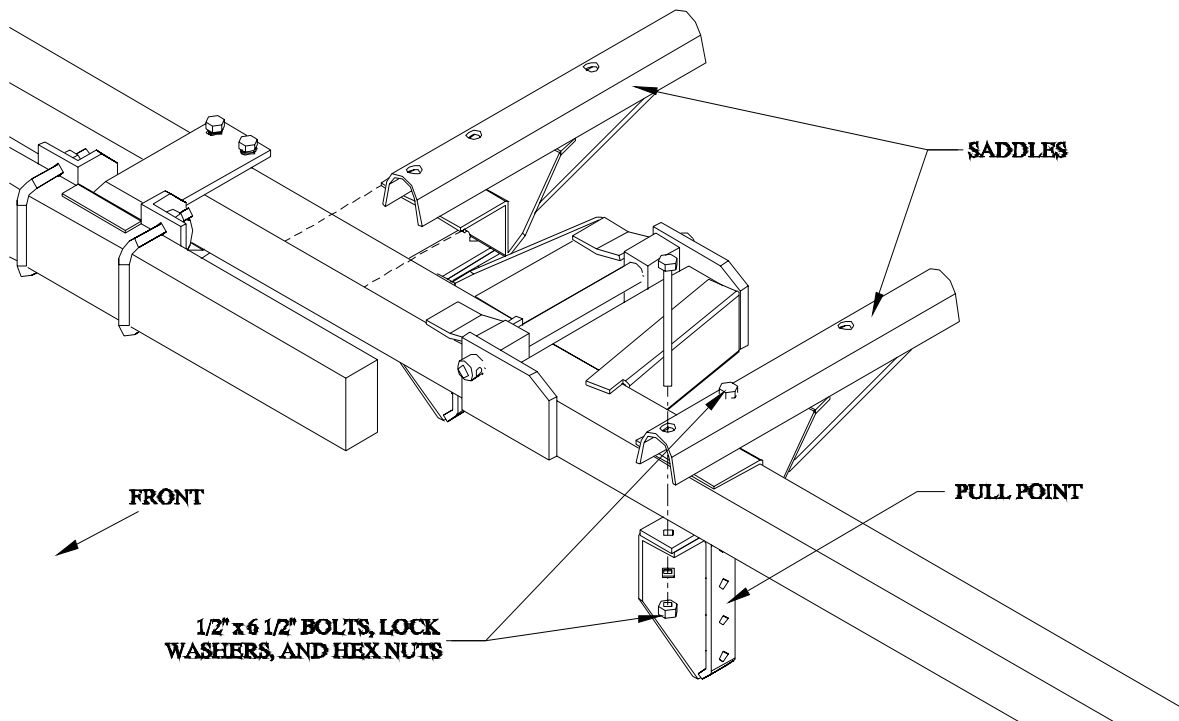

Figure 9
2. Center a saddle on each of the saddle location marks that you put on the wing and center bar tubes in the previous step. Refer to Figure 9 on the previous page. Insert two 1/2" x 6 1/2" bolts through each of the saddles so as to straddle the tubes. Slide the pull points onto the bolts from the back side and bolt them in the place with 1/2" lock washers and hex nuts.